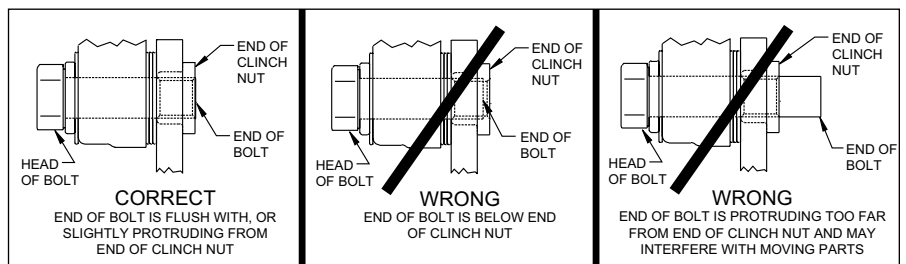

Figure 4. Clinch Nut Engagement Diagram
CAUTION: All mounting bolts must fully engage clinch nuts. Be sure to check that all bolts are either flush or protruding through flanged side of clinch nut after shimming, Figure 4.
•**NOTE:** Please reference the caution statement at the beginning of the assembly instructions. Mount the caliper (6) onto the caliper mounting bracket (2) using bolts (7) and washers (8), as shown in Figure 1. Initially place two .035" thick shims (9) on each bolt between the caliper and the bracket, Photo 5. Temporarily tighten the mounting bolts and view the rotor (5) through the top opening of the caliper. The rotor should be centered in the caliper, Photo 6. If not, adjust by adding or subtracting shims (9) between the bracket and the caliper. Always use the same amount of shims on each of the two mounting bolts. **NOTE:** The end of each bolt must be flush with or slightly protruding from the head of the clinch nut, as shown in Figure 4. If necessary place spare shims between washer (8) and caliper mounting ear to achieve the proper clinch nut engagement. Once the caliper alignment and clinch nut engagement are correct, remove the bolts one at a time, apply red *Loctite*® 271 to bolt threads, and torque to 40 ft-lb.